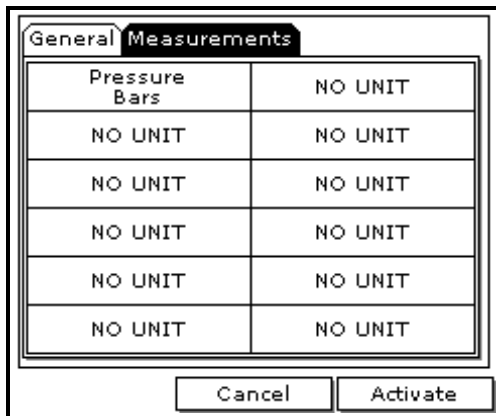

Figure 43: Log Measurements Window
3. When you have finished, press [F3] (OK).
- Use the arrow keys to move back to the **General** tab and then move to the **Measurements** tab and press [ENTER]. A screen similar to Figure 43 appears.